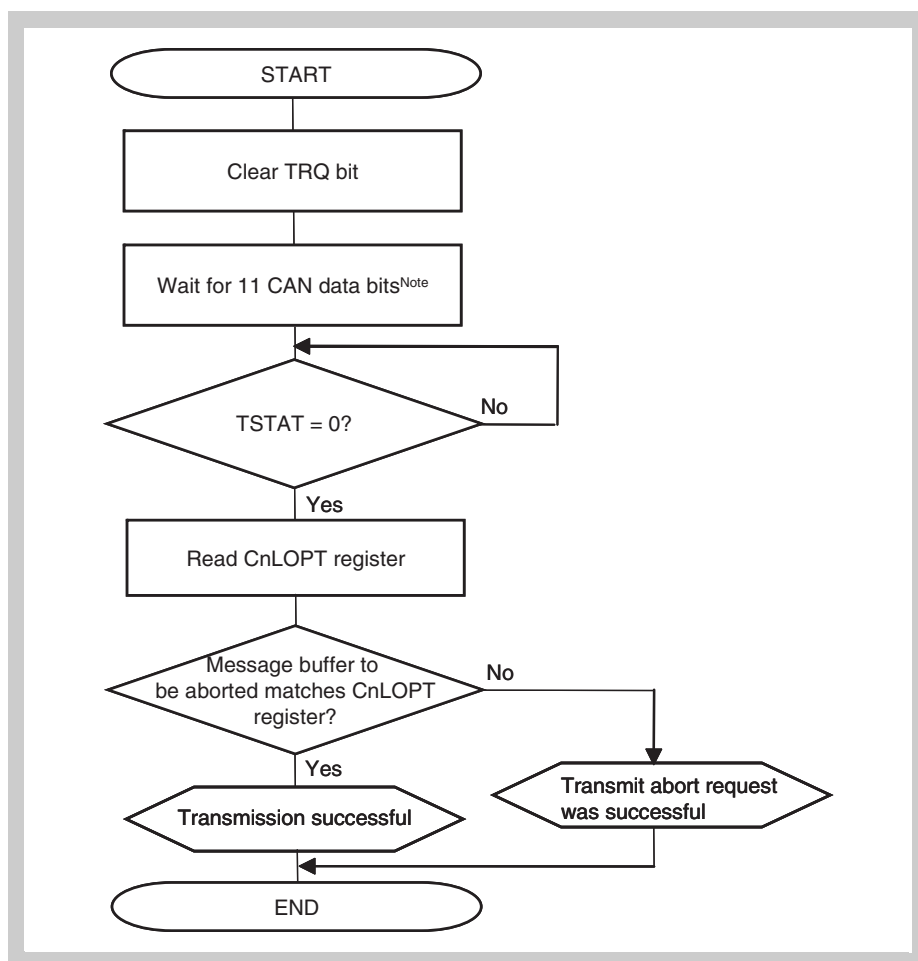
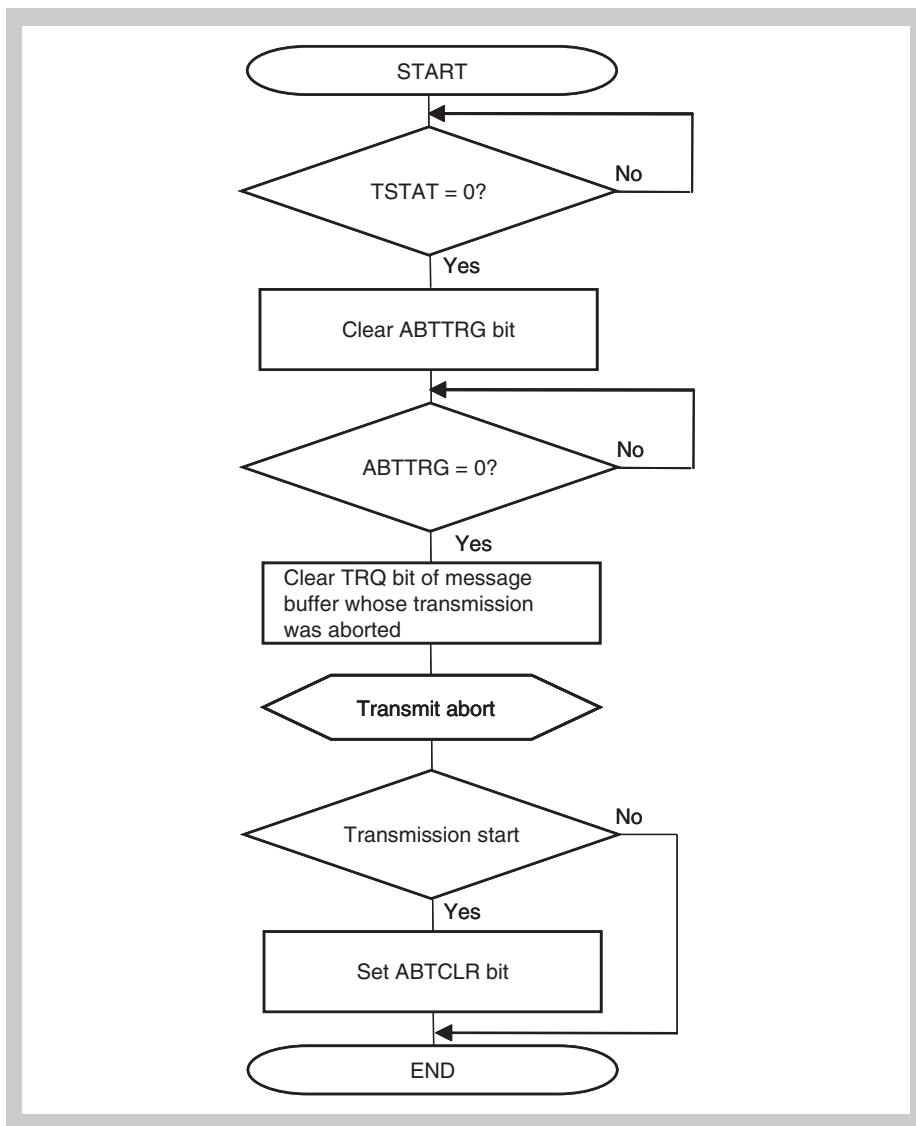
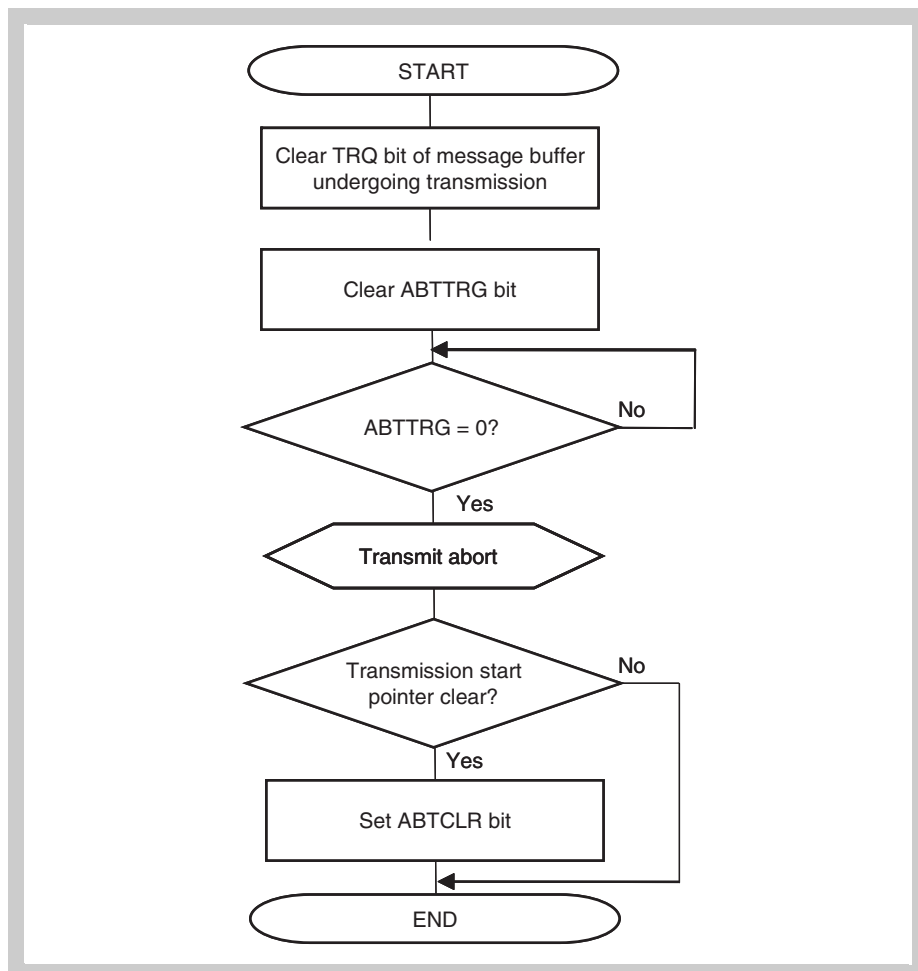

Figure 20-45 Transmission abort processing (except normal operation mode with ABT)
Figure 20-47 Transmission abort processing (normal operation mode with ABT)
Figure 20-48 ABT transmission request abort processing (normal operation mode with ABT)
Figure 20-47 shows the processing to skip resumption of transmitting a message that was stopped when transmission of an ABT message buffer was aborted.
2. Make a CAN sleep mode/CAN stop mode transition request after the ABTTRG bit is cleared (after ABT mode is aborted) following the procedure shown in *Figure 20-47* or *Figure 20-48*. When clearing a transmission request in an area other than the ABT area, follow the procedure shown in *Figure 20-45* on page 801.
Figure 20-48 shows the processing to not skip resumption of transmitting a message that was stopped when transmission of an ABT message buffer was aborted.
2. Make a CAN sleep mode/CAN stop mode request after the ABTTRG bit is cleared (after ABT mode is stopped) following the procedure shown in *Figure 20-47* or *Figure 20-48*. When clearing a transmission request in an area other than the ABT area, follow the procedure shown in *Figure 20-45* on page 801.
Caution To abort transmission before making a request for the CAN sleep mode, perform processing according to *Figure 20-45 on page 801* and *Figure 20-47 on page 803*.